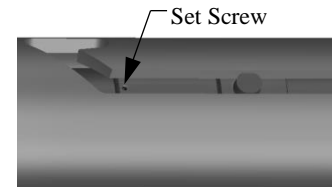

Fig. 6
L-2.17) Screw set screws (34) into J-pin bottom sub (23). Move J-body (20) as needed to access threaded holes (Fig. 6).